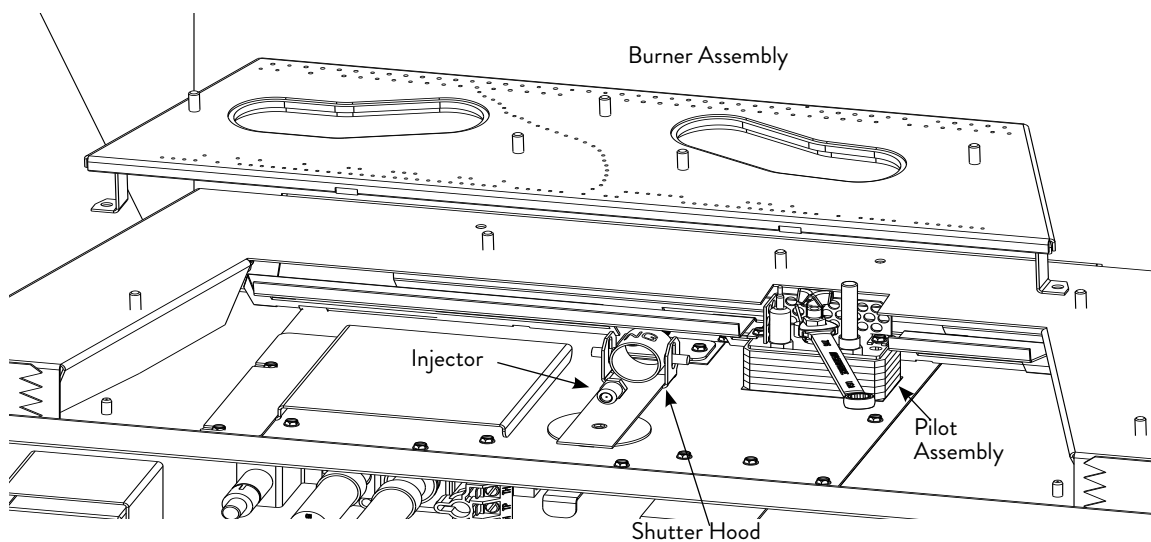

Figure 7.4. Burner and injector removal.
3. **REMOVE THE BURNER - Fig. 7.4**
4. **CHANGE THE BURNER INJECTOR:** Use a 1/2" or 13 mm open-end wrench or deep-well socket to remove the original burner injector from the brass fitting at the rear of the firebox. See fig. 7.4. Install the injector from the conversion kit and tighten it securely.